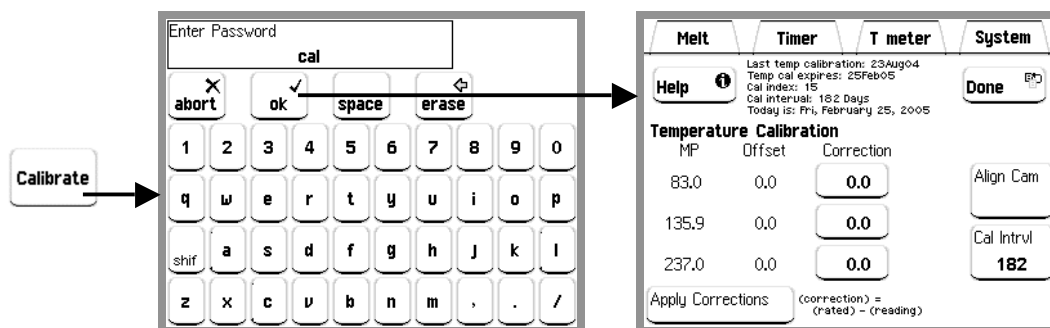

Figure 36. Calibration Menu.
Press the Calibrate button on the System screen and enter the calibration password to enter the Calibration menu (Figure 36). Enter the Calibration Password when prompted. All units have the same password.
3. Press the Calibrate button on the System screen and enter the calibration password ('cal') to enter the Calibration menu (figure 36). All units have the same password. See Figure 36.